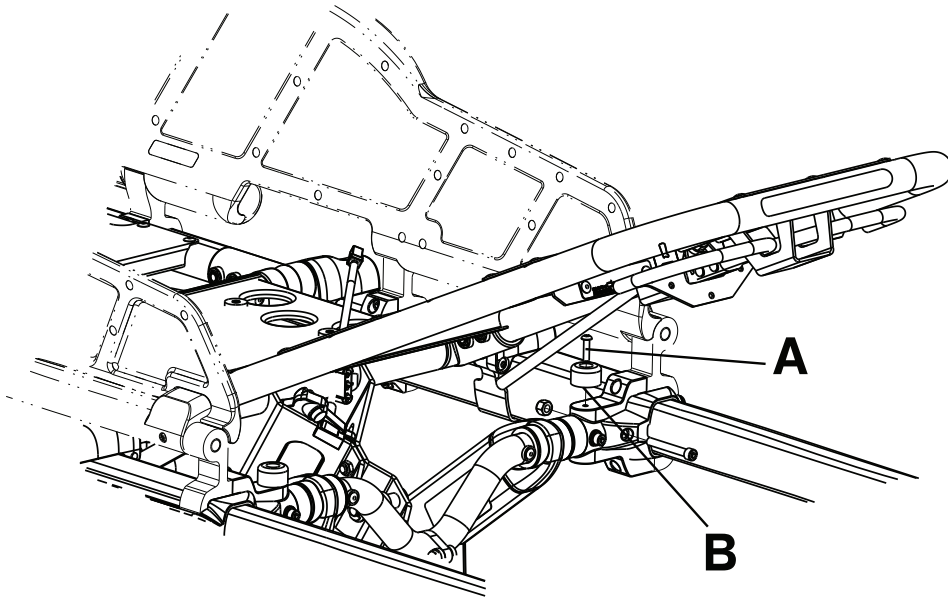

Figure 10: Siderail assembly replacement (XPS)
3. Using a T25 Torx driver, remove the button head cap screw (A) and black bumper (B) on the side where you are replacing the siderail (Figure 10 on page 42). Save the screw and bumper.